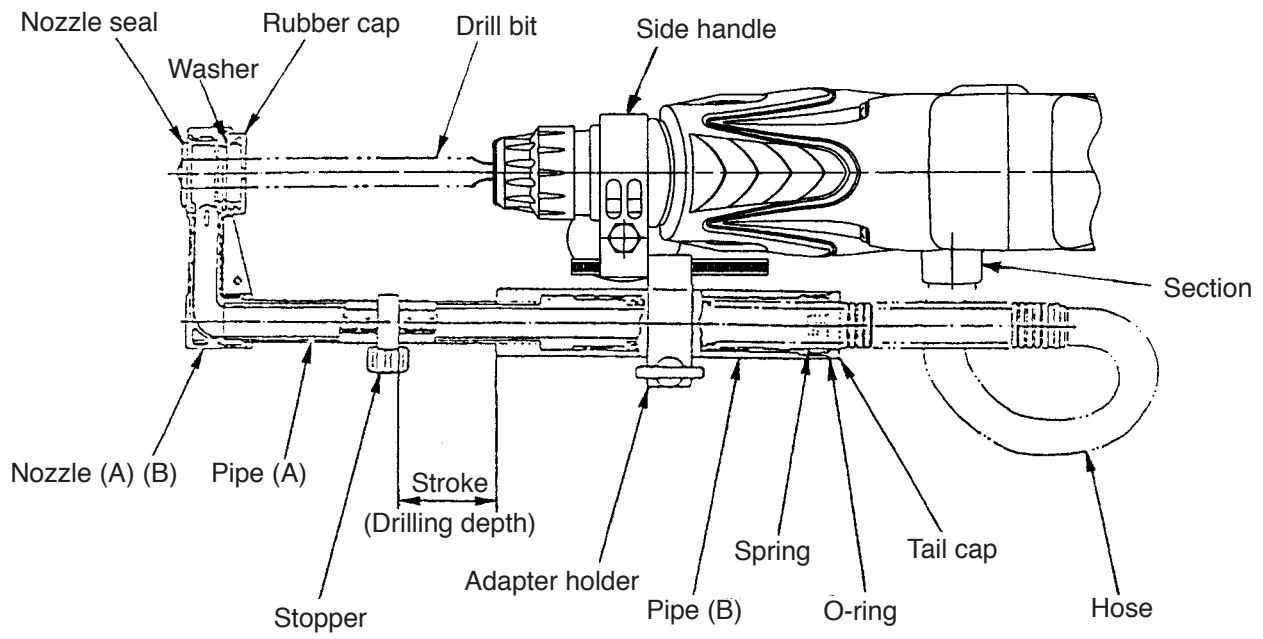

Fig. 4
The dust collection adapter ass'y is designed to be mounted on the side handle. As illustrated in Fig. 4, a spring inside pipe (B) allows movement of pipe (A) so that the drill bit stroke (drilling depth) can be adjusted by simply changing the position of a stopper mounted on pipe (A), thus functioning as a depth gauge. Also, a rubber cap and a nozzle seal are provided to minimize leakage of dust where the drill bit rotates inside the nozzle.